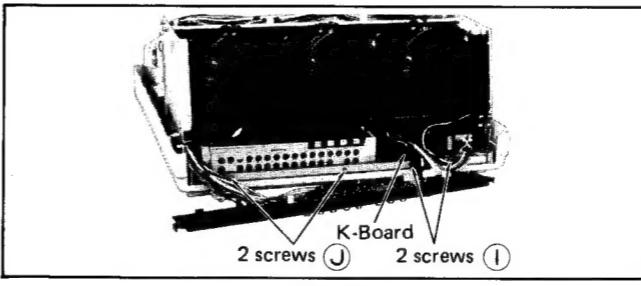

Fig. 10
- Remove 2 screws **(I)** in fig. 10.
- Remove 2 screws **(J)** in fig. 10.